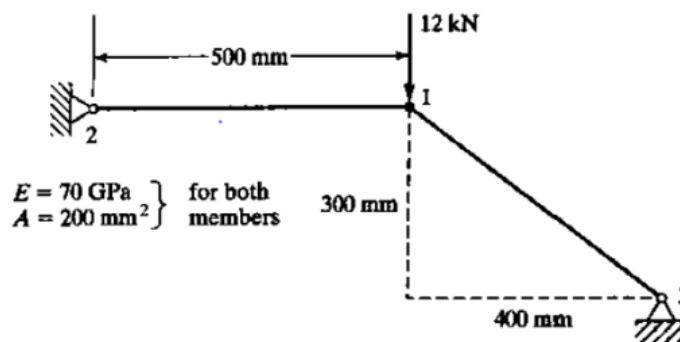

Figure 4 (a)
- 4 a) For the two-bar truss shown in figure 4 (a), determine the displacements of node 1 and stress in element 1-3.